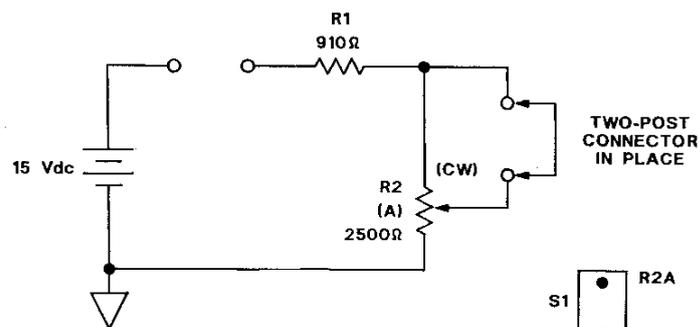

Figure 1 Basic Circuit Connection
11. Locate the LINEAR/NONLINEAR VARIABLE RESISTOR circuit block on the DC FUNDAMENTALS circuit board. Connect the circuit as shown in Figure 1.